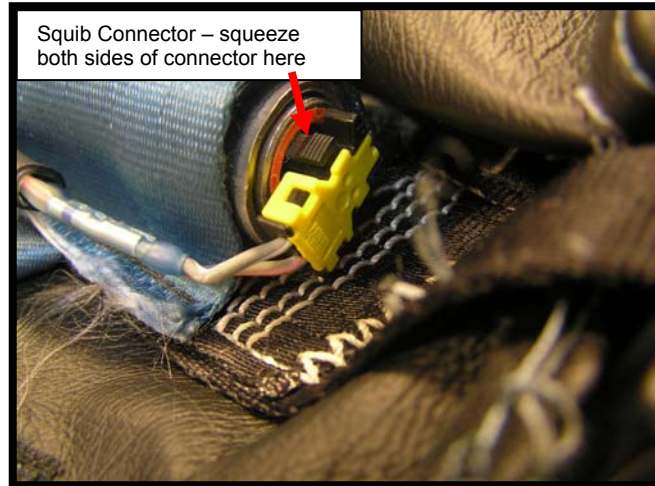

Figure 5 – Electrical Connector of Inflator
- b. Remove squib connector from the **Inflator** by squeezing both sides of the connector and gently pulling away from the Inflator (Figure 5).
- c. Connect gas hose from restraint assembly to **Inflator** using required in/lbs torque. See Table 1 for torque value. DO NOT twist hose during attachment. The **Inflator** hose connector fitting (Figure 5) must be fully seated onto the gas hose connector for an air-tight fit.
- f. Attach Squib Connector (Figure 5) located on the **Retractable Extension Cable Assembly** (40) to **Inflator**. Orient connector as shown in Figure 5 and seat into **Inflator** until it locks in place.